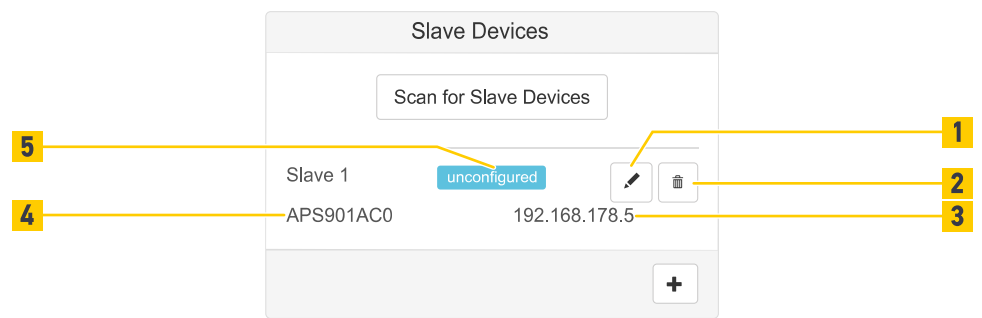

Fig. 94: Connected slave device
- When the connection between a slave and master is established the status (Fig. 94 /5) changes to unconfigured.
- The hostname (Fig. 94 /4) and the IP address (Fig. 94 /3) of a connected slave are shown.
- To delete a slave click the delete button (Fig. 94 /2).
- To edit a slave click the edit button (Fig. 94 /1).